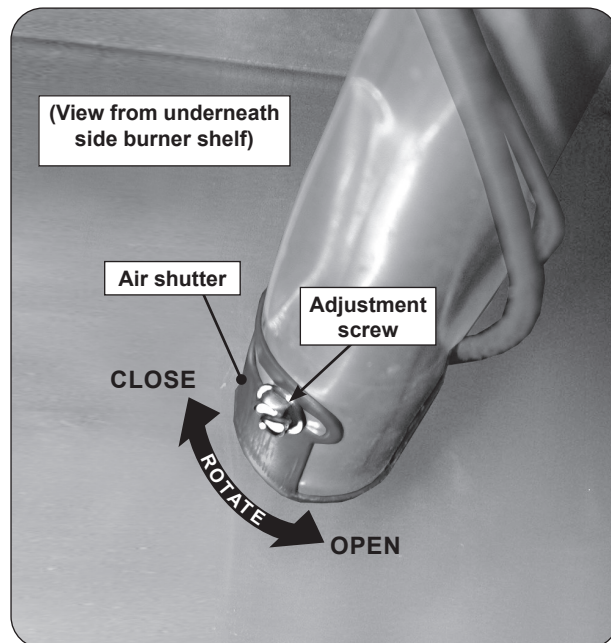

Fig. 52-1 Side burner air shutter adjustment detail
2. Loosen the adjustment screw with a flathead screwdriver, then carefully rotate the shutter to open or close it. See Fig. 52-1 for details.